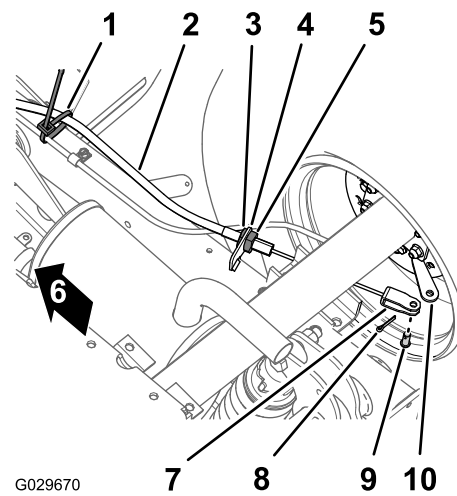

Figure 40
1. At the bottom of the machine, remove the cable tie that secures the parking-brake cable to the service brake line (Figure 40).
2. Mark a rotation stripe on the forward jam nut for the parking-brake cable (Figure 40).
3. Loosen the rear-jam nut and remove the cable from the brake-cable bracket (Figure 40).
4. Remove the cotter pin and the clevis pin that secure the clevis for the parking-brake cable to the brake-actuating lever and separate the cable from the lever (Figure 40).
1. Route the threaded adjuster of the parking-brake cable to the brake-cable bracket and the clevis to the brake-actuating lever (Figure 40).
3. Align the threaded adjuster of the parking -brake cable to the brake-cable bracket and tighten the rear-jam nut (Figure 40).